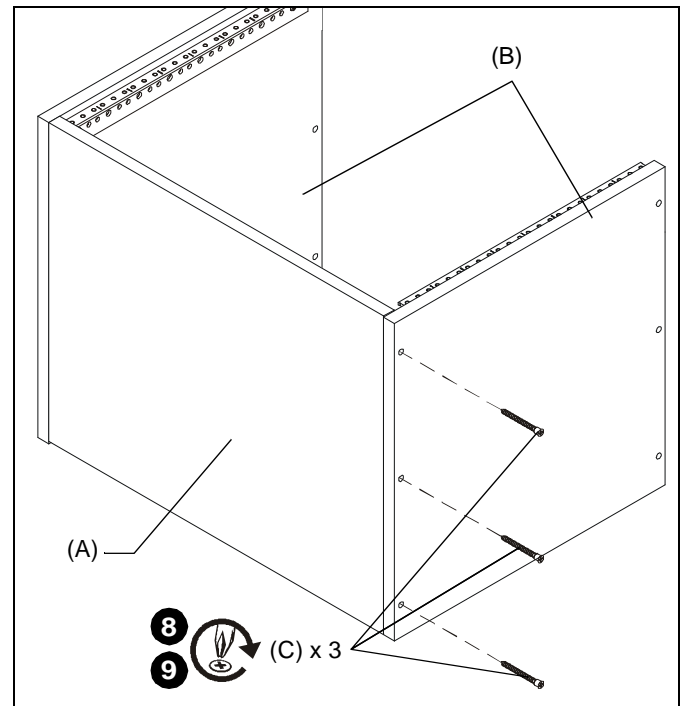

Figure 3
8. Attach remaining side panel to assembly using one 7mm x 70mm wood screw (C) into predrilled hole on side panel. Fasten the screw all the way into the panel but leave somewhat loose until all screws are installed. (See Figure 3)